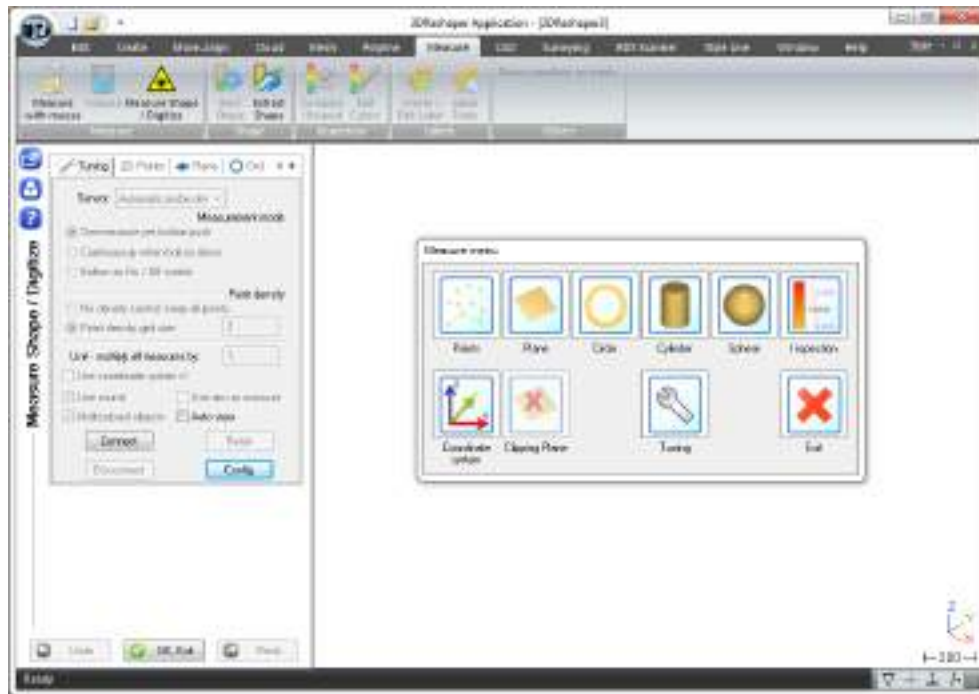

Figure 15: The menu with all the commands to measure directly with your arm in 3DReshaper
- “Point density grid size” will make a uniform point density, independent of your measurement speed. It will also remove all bad or aberrant points and provide a shading representation. The value you enter in the Point density field is the size D of a square grid, which is projected on the shape during your measurement. During the measurement process 3DReshaper will keep only 10 points in each grid cell (see Figure 15).